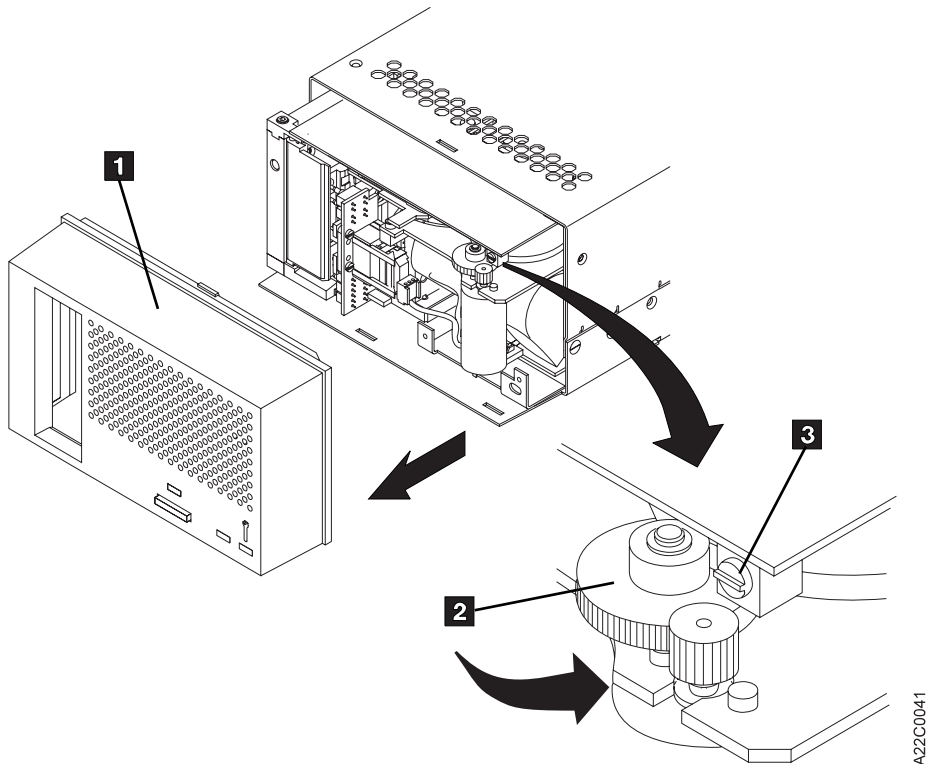

Figure 13. Positioning the Drive Loader for Shipping
- b. See Figure 13. Remove the drive cover **1** from the drive by pressing the top center of the drive cover and pulling it free.